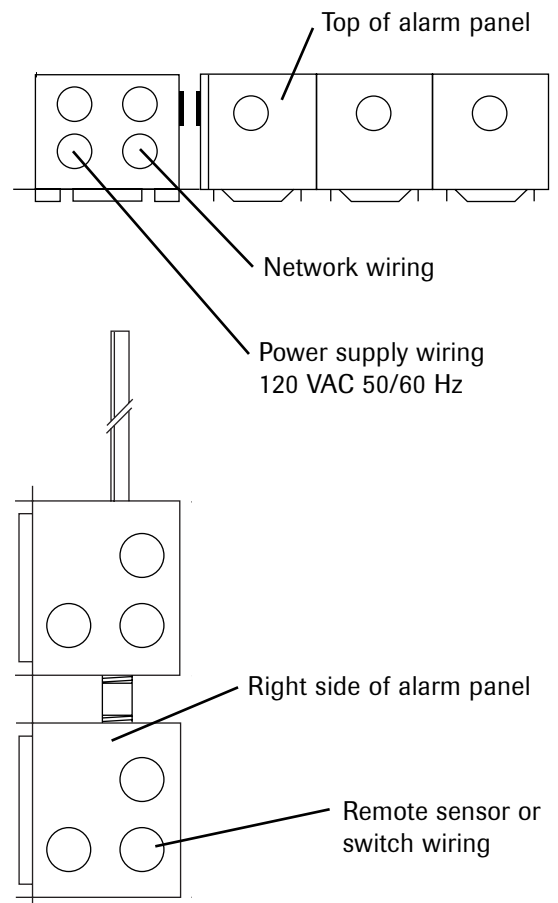

Figure 7. Knockouts
1. Connect the power supply conduit from the life safety branch of the building emergency power system to the power supply mounting box using the knockout shown in **Figure 7**.
2. If alarm panels are to be networked, connect the conduit for the network wiring to the power supply mounting box using the knockout shown in **Figure 7**.
3. If using remote sensors or switches, connect the conduit for external signal wiring to the alarm mounting box using the knockout shown in **Figure 7**.